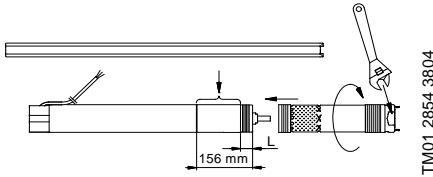

Fig. 5
1. Place the motor horizontally in a vice and tighten it, see fig. 5.
A spanner may be used on the clamping faces of the pump part, see fig. 5.